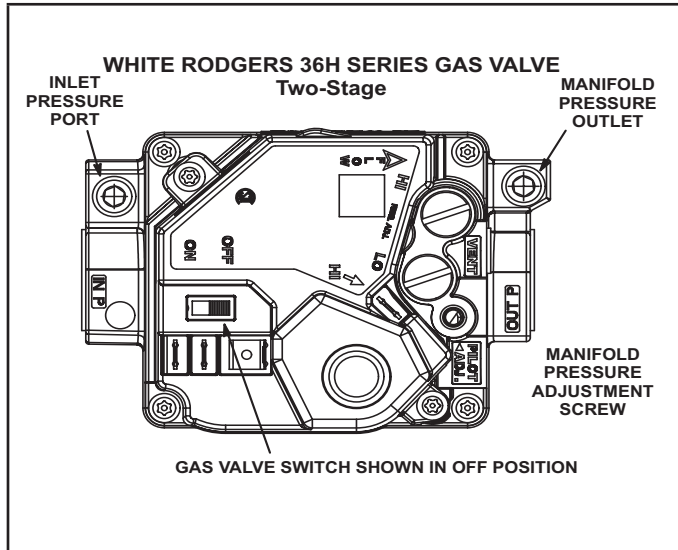
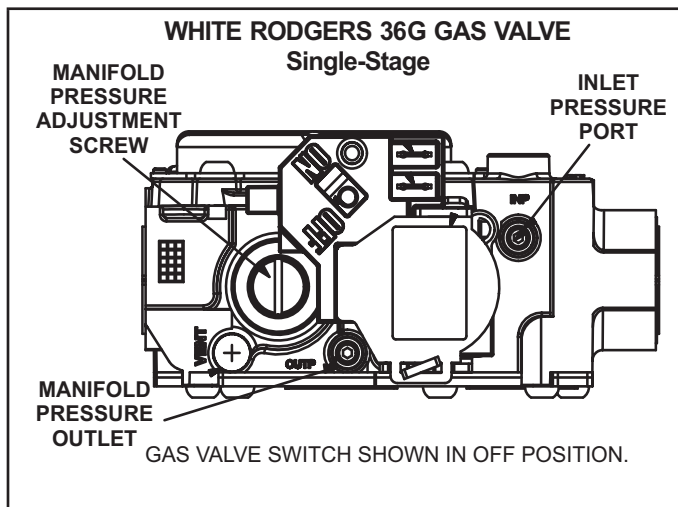

FIGURE 12
FIGURE 13
OPERATION OF WHITE RODGERS 36H SERIES VALVE (FIGURE 12) AND WHITE RODGERS 36G SERIES GAS VALVE (FIGURE 13)
For White Rodgers 36G valve (Figure 13), an inlet post located on the gas valve provides access to the supply pressure. Open the inlet port by backing out the 3/32" hex screw one turn. Connect a piece of tubing over the inlet post and route to a measuring device to measure supply pressure.
For White Rodgers 36H valve (Figure 12), supply pressure is accessed by removing 1/8" hex screw. Remove the 1/8" hex screw and install a 1/8" fitting with hose barb. Connect tubing from the barbed fitting and route to measuring device to measure supply pressure.
For White Rodgers 36G valves (Figure 13), turn the manifold 3/32" hex screw one revolution back into the gas valve.
For White Rodgers 36H valves (Figure 12), remove manifold barbed fitting and reinstall the 1/8" hex screw.
For White Rodgers 36G valves (Figure 13) manifold pressure, back out the 3/32" hex screw one turn, connect a piece of 5/16" tubing and connect to the "+" side of the measuring device.
For White Rodgers 36H valves (Figure 12) manifold pressure, remove the 1/8" hex screw, install 1/8" fitting with hose barb, connect hose from barb to "+" side of measuring device.
- 5 - If necessary, make adjustments. Figure 12 and 13 show adjustment screw(s) locations.
For White Rodgers 36H valves (Figure 12), remove 1/8" fitting with hose barb and reinstall 1/8" hex screw.